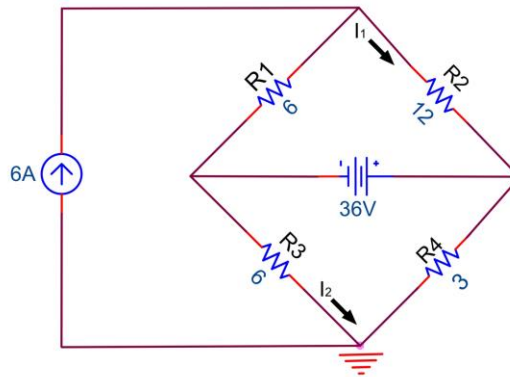

Figure 4.12
1. Simulate Figure 4.12 in Capture CIS.